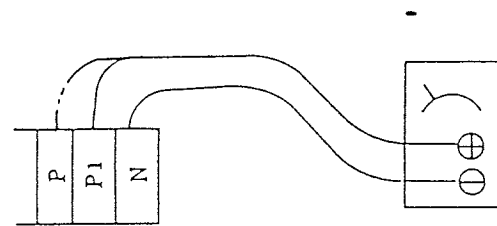

Figure 11
- (1) At least 20 minutes have passed after power was turned off to allow for natural discharge.
- (2) The voltage across terminals P1 and N is 15 V or less. (Measure the voltage with a multimeter as shown in Figure 11.)
- (3) After power off, a 30-watt, 500 Ω discharging resistor is connected between terminals P1 and N for at least 15 seconds.